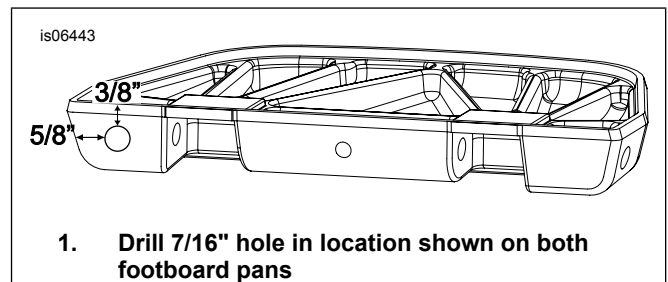
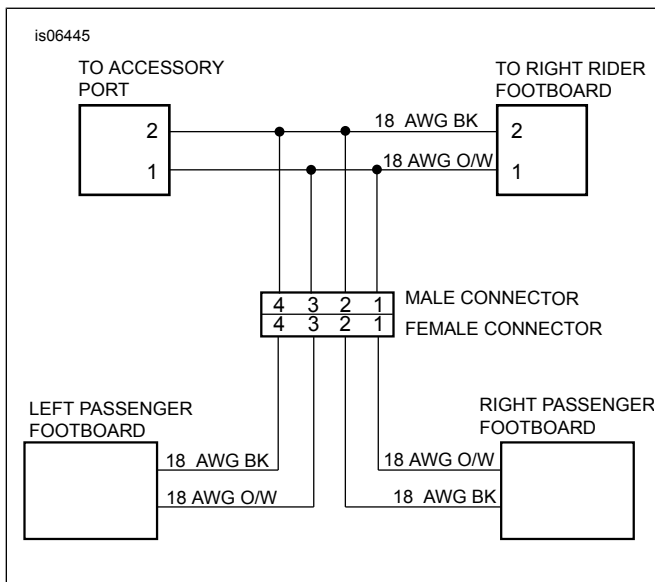
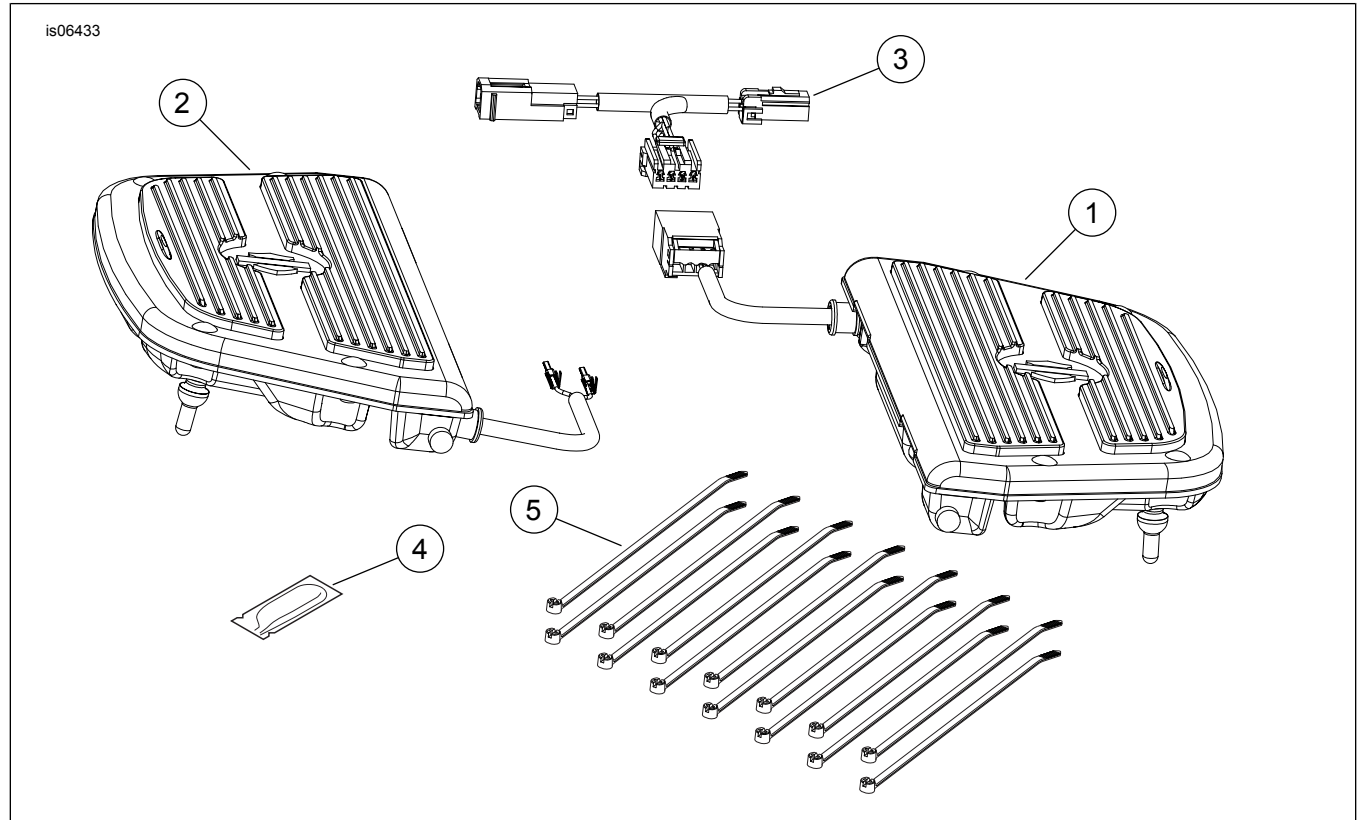

Figure 1. Drill Holes for Wire Harness in Footboard Pans
Figure 2. Passenger Footboard Leads Connected to "Y" Harness
Figure 3. Service Parts: Electra Glo Lighted Passenger Footboard Insert
See Figure 3 and Table 1.
1. See Figure 1. Drill a 7/16 inch hole into the sidewall of both footboard pans as shown in Figure 2. Remove sharp edges and burrs. When installed, the right footboard pan will have the hole in the front and the left footboard pan will have the hole at the rear of the pan.
- Left passenger footboard (2): Install orange/white wire with pin to female connector (5) in the number 3 cavity. Install black wire with pin to number 4 cavity.
- Allow sufficient wire length to allow the footboards to pivot freely through their entire range, then use cable straps (6) from the kit to tie the footboard insert harnesses to the back sides of the passenger footboard mounting brackets.
- See Figure 2, Figure 3 and Table 1 to make the wire connections. Apply the contents of the dielectric grease packet (4) to the footboard insert wiring harness and all harness connector terminals.